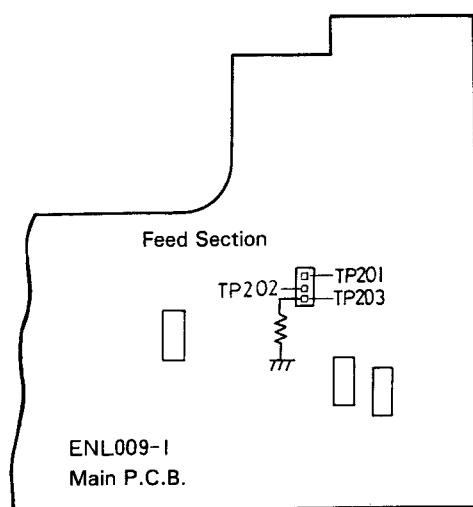

Fig. 21
1. Connect TP203 to ground via a $2.2k\Omega$ resistor, as shown in Fig. 21.